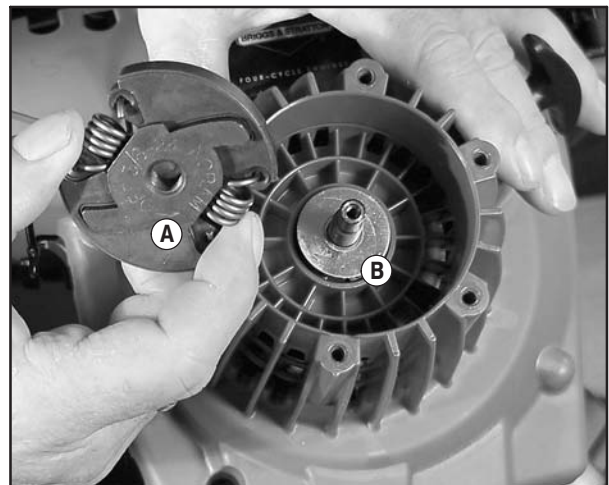

Fig. 6
3. Remove clutch (A) and thrust washer (B), Fig. 6.